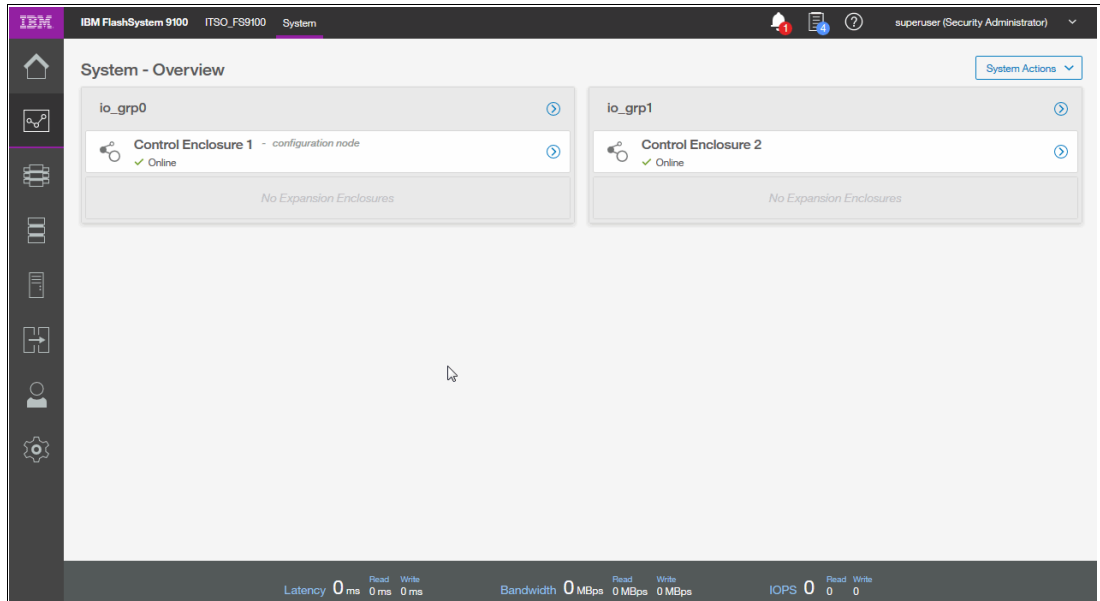

Figure 5-43 System - Overview Control Enclosures view
- Navigate to **System - Overview** page to view details of Control Enclosures as shown in Figure 5-43 with an empty I/O Group.